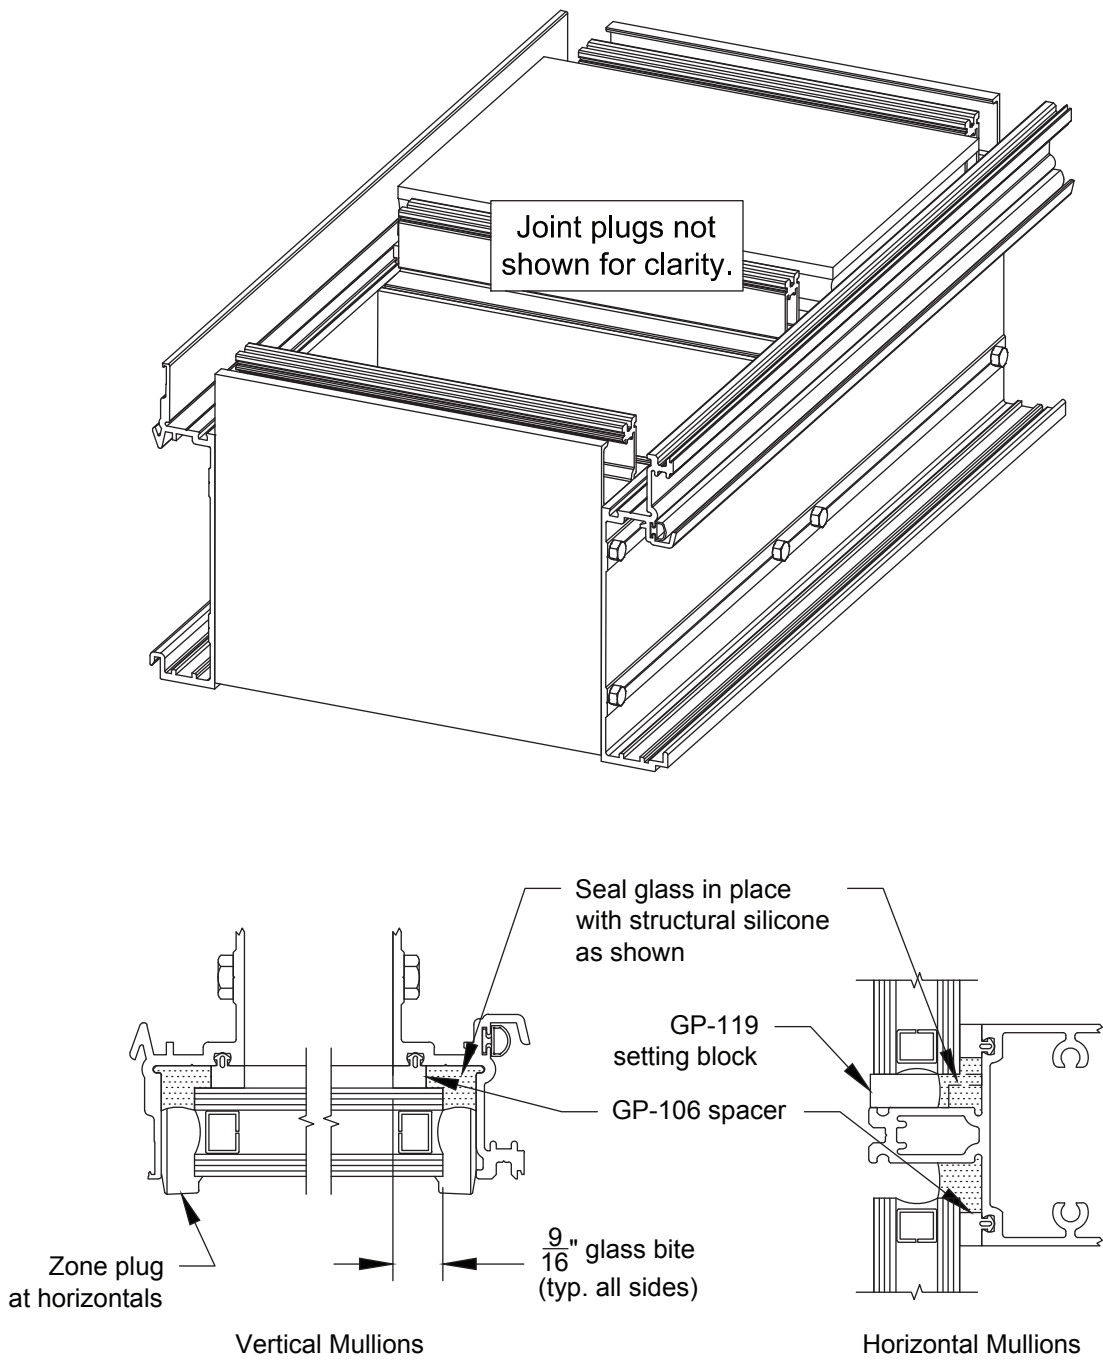
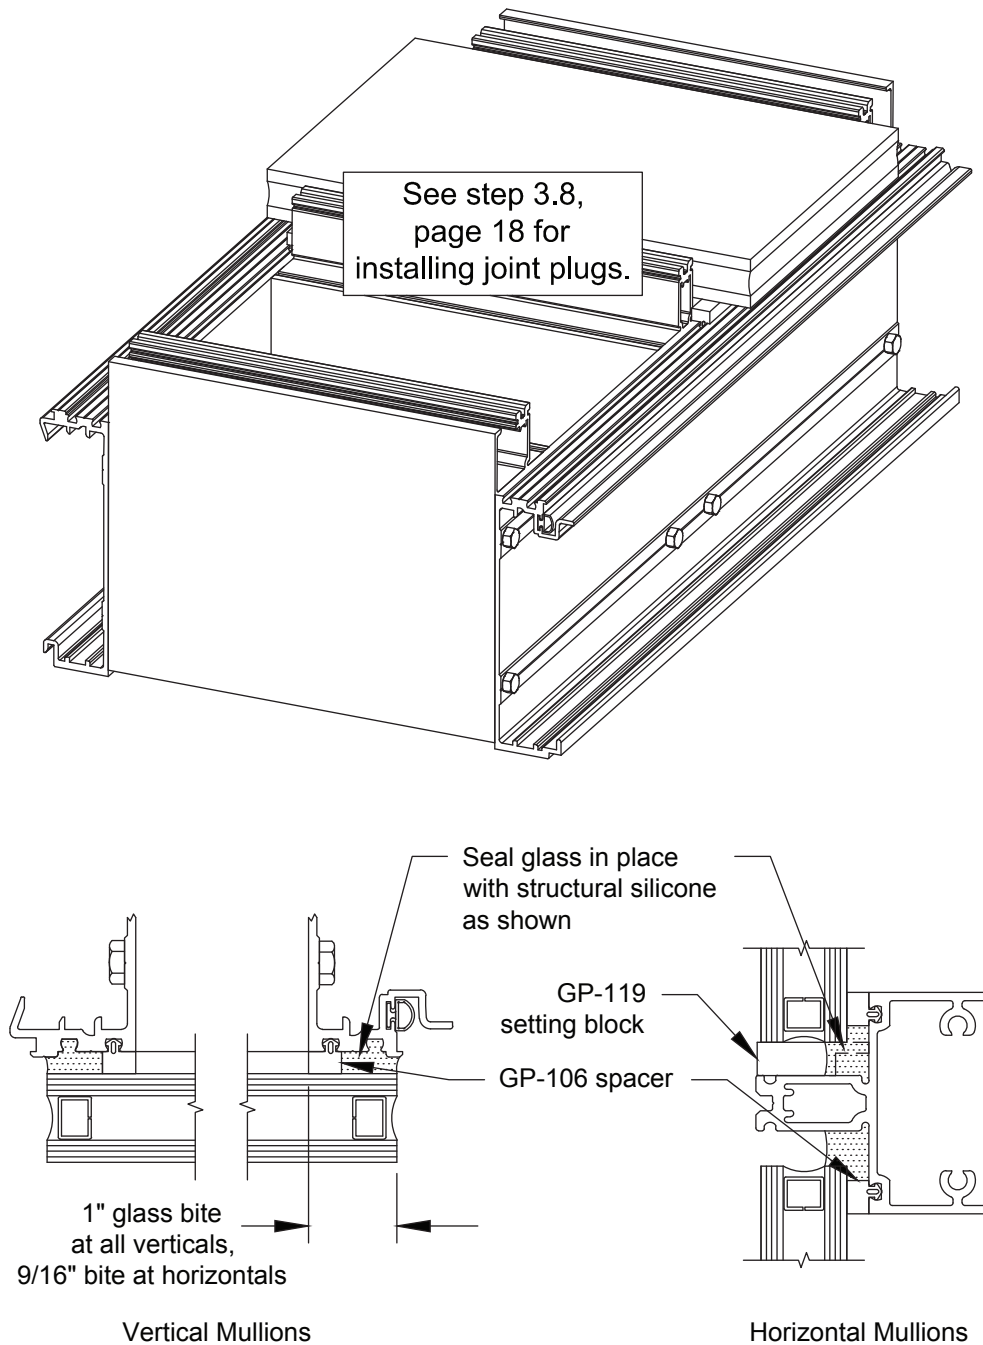

FIGURE 13
FIGURE 14
- 2.9 To pre-glaze lites, make sure frame is set glass side up, squared and level. Thoroughly clean edges of glass and frame where silicone will be contacting. Seal around edges of glass. **SEE FIGURE 13, page 13** for captured mullions and **FIGURE 14, page 14** for SSG mullions. Tool sealant and set frame aside while silicone cures.